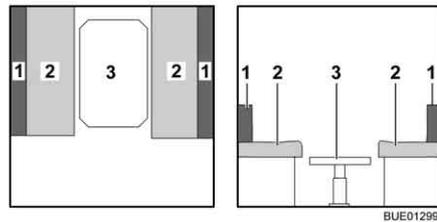

Fig. 116 During conversion
- Pull the seat cushions (Fig. 116,2) into the centre.